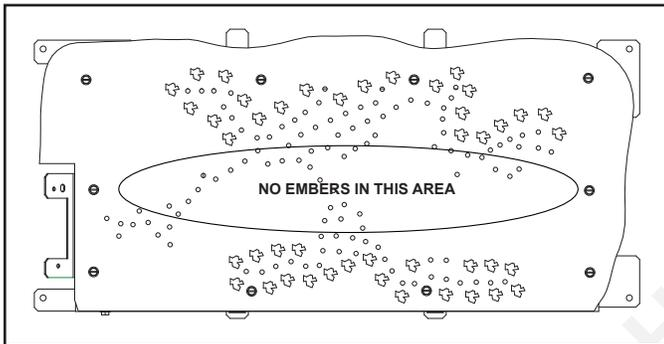

Figure 14.23 Ember Placement
- Place dime-size pieces of Glowing Embers® just in front of the port trail, but not on or in between the ports. See Figure 14.23. Embers are to be placed adjacent to burner port holes. Care should be taken so that the ports are not covered. Failure to follow this procedure will likely cause lighting and sooting problems.